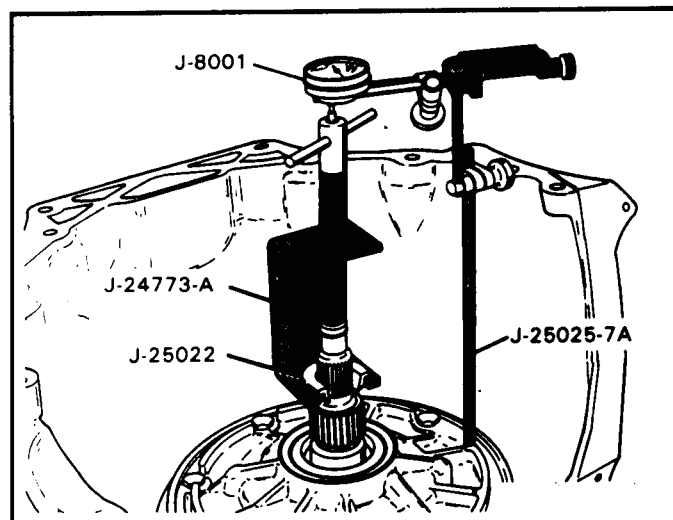

Figure 43
3. Remove an oil pump bolt, install J-25025-7A, as shown in Figure 43.
4. Install turbine shaft lifting tool as shown in Figure 43.
5. Install dial indicator, as shown in Figure 43 and set dial indicator to zero.
6. Using the lifting tool, end play should read .004" to .027" (See Figure 43).